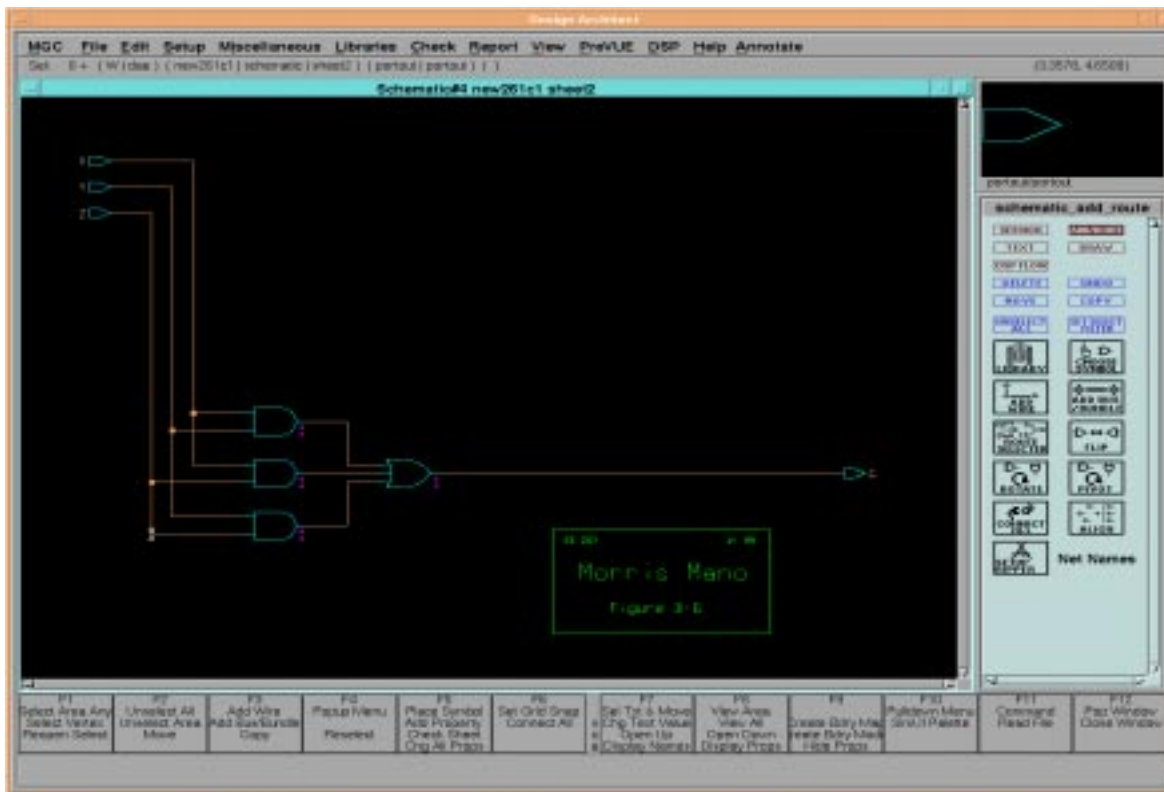

FIGURE 2. Design Architect Screen for Project 1
At this point, your circuit is a mess, with the wires crossing everywhere. To fix this, you should move the points (bends) in the wires. They are selected and moved in the same way any wire or gate is. It may take some practice to select just the point and not the wire. (Hint: When a point is selected, it is highlighted by a white cross centered on the point.) You can also select and move a point that is attached to the pin of a gate. Move the points around so your circuit looks similar to Figure 2. There is another way to do this automatically. When you click and hold down the LMB while moving the mouse, the mouse pointer forms a rectangle and selects everything inside the rectangle when you release the button. Use this to select the output wires of the AND gates along with the OR gate. Stop the right edge of the rectangle at the middle of the OR gate so that the output wire of the OR gate is not selected. Now, from the ADD/ROUTE palette, click the ROUTE SELECTED tool icon. This will automatically re-route the wires cleaning up all the mess.
once. To add a bend or anchor point anywhere, click once again. To end a wire, double click. To undo your last click, use the `backspace` key. When you are done, your circuit should look like Figure 2. `Cancel` the wiring tool on the form at the lower left when you are done with it.
- The schematic of the modified circuit (like Figure 2)